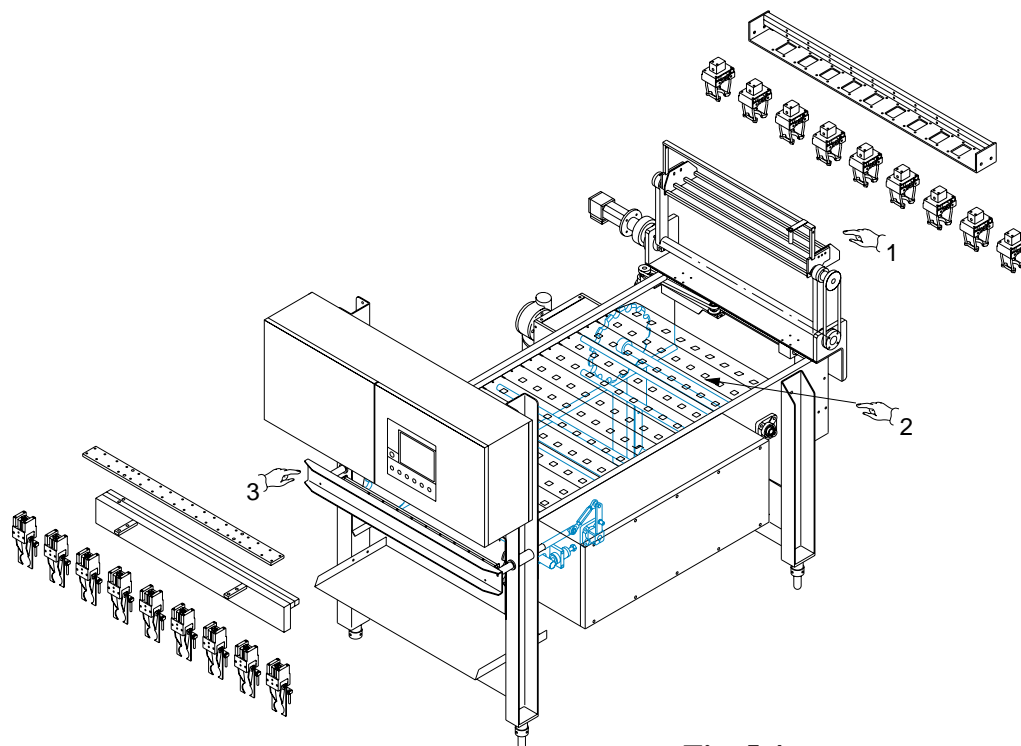

Fig. 5.4
- Replace the pick-up gripper holder support (*Pos. 1, Fig. 5.4*).
- Replace the release gripper holder support (*Pos. 3, Fig. 5.4*).
- Replace the rollers (*Pos. 2, Fig. 5.4*).